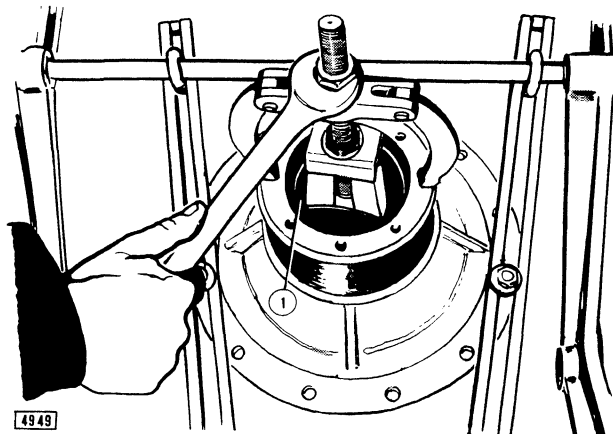

Fig. 8.38 - Removal of drive pinion bearing outer ring
- From differential case, extract the bearing outer ring (1) Fig. 8.38 using a proper universal puller.